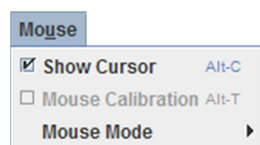

Figure 54: Remote Console Mouse Menu on Intel® Server Boards and Systems Based on Intel® Xeon® Processor E5-4600/2600/2400/1600/1400 (v1&v2) Product Families
- **Mouse Mode.** This option is only available on Intel® Server Boards and Systems Based on Intel® Xeon® Processor E5-4600/2600/2400/1600/1400 (v1&v2) Product Families. See Figure 54. This allows you to select the mouse mode being used. You can select Absolute, Relative, or Other as shown in Figure 55. For a description of these modes, see Section 7.3.9. Note that the functionality of this option is the same as changing then saving the mode on the Mouse Mode page. Any selections that you make will be saved for the next time when the remote console window is opened.